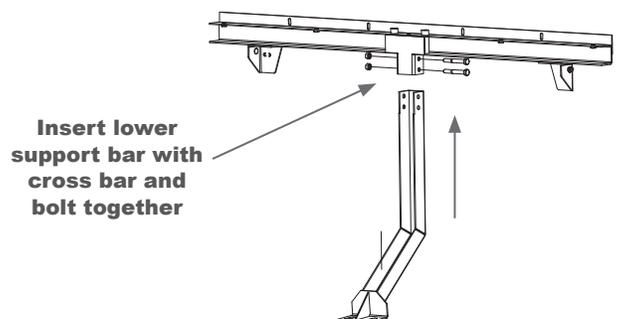

Fig. 1
A. After the barrier has been completely installed, then proceed by attaching the (3OSB4715-07) lower and (3OSB4715-01) upper support bars. (As shown in Fig. 1) Use the two (3X114) 3/8 bolts and (3X170) nuts secure the support bars together.